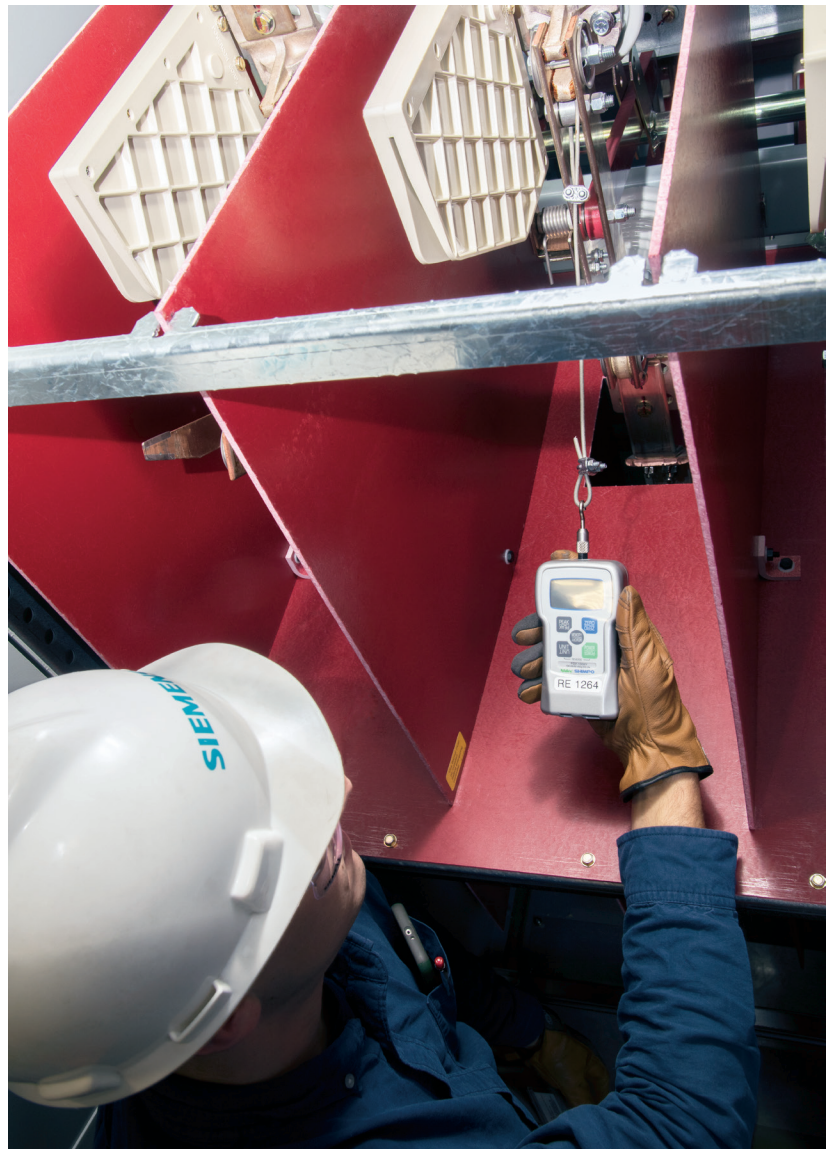

Figure 69: Use of spring scale for switch blade adjustment
1. Disconnect the pushrods by removing the cotter pins and clevis pins that connect pushrods to the operating arms of each pole of the switch (refer to Figure 63 on page 102). Open the load-interrupter switch until the quick-acting blade just clears the arc chute and connect a spring scale to the main blades approximately 1-1/2" below the jaw contact as shown in Figure 69.